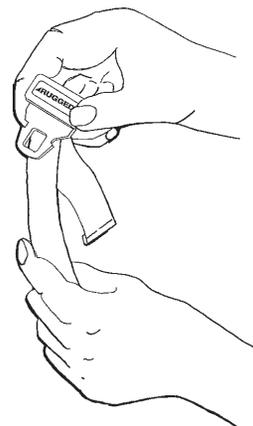

Figure 18 - Lengthening the Safety Restraint
- To lengthen the restraint, grasp the buckle tang, turn it at an angle to the webbing, then pull it out (Figure 18). A hemmed tab at the end of the webbing prevents the tang from coming off the strap.